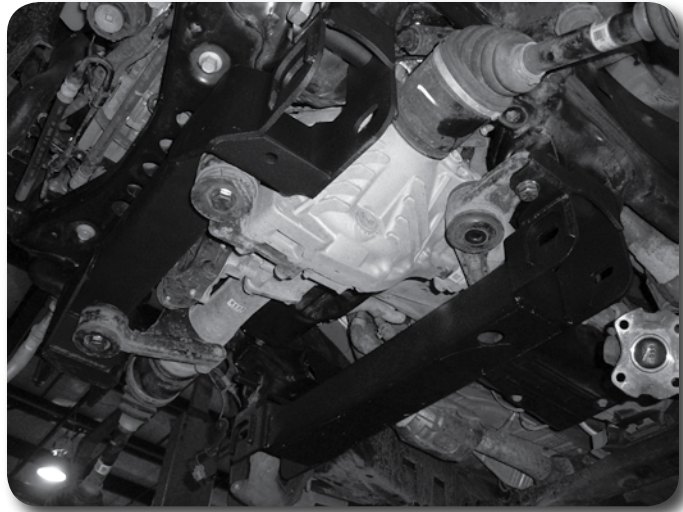

Figure 33
40. With the rear crossmember installed, fasten the factory rear differential mount to the outer crossmember mount with a 9/16" x 2-1/2" bolt, nut and washers. Also, install the factory flanged high nut on the captive stud, which is accessed through the bottom of the rear crossmember **Figure 33**. Leave hardware loose.